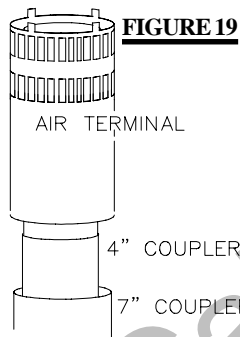

FIGURE 19
4. Apply high temperature sealant to the outer edge of the of the outside sleeve of the air terminal. Slip a 7" diameter coupler over the sleeve and secure as before. **FIGURE 19.** Trim the 7" coupler even with the 4" coupler end.